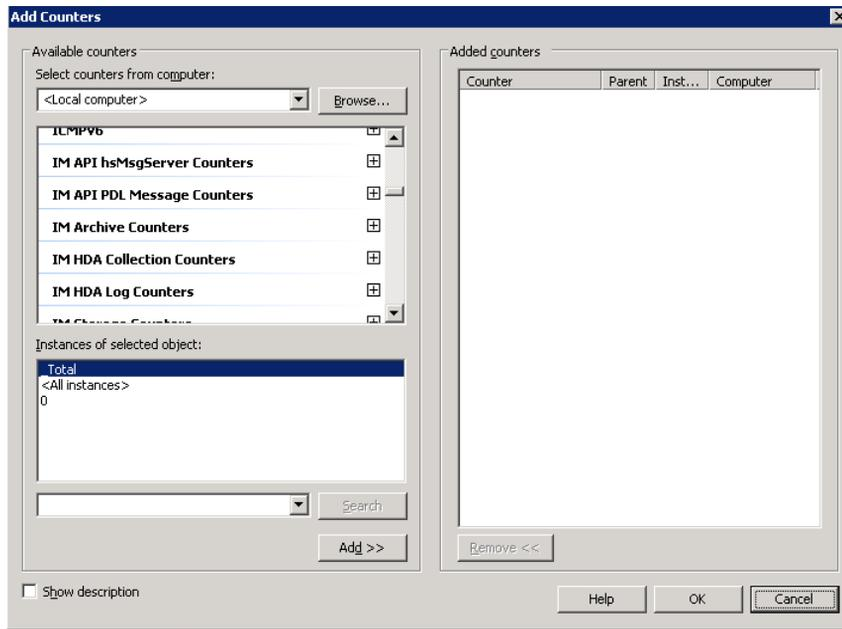

Figure 72. Selecting the IM Counter Category
computer from the associated pull-down menu, Figure 72.
4. Select the applicable counter category from the Performance Object menu, Figure 72 (IM API Counters, IM Archive Counters, IM Collection Counters, or IM Storage Counters).